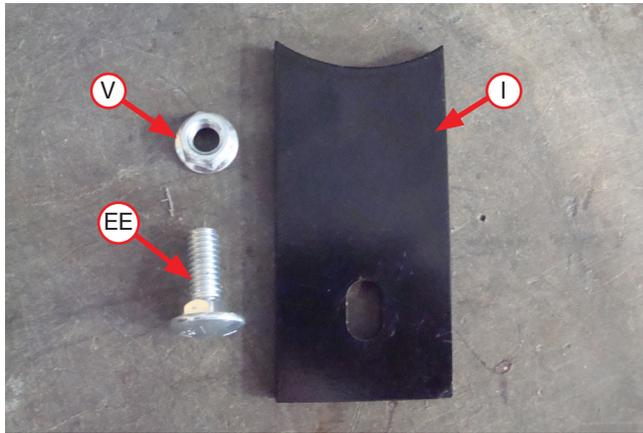
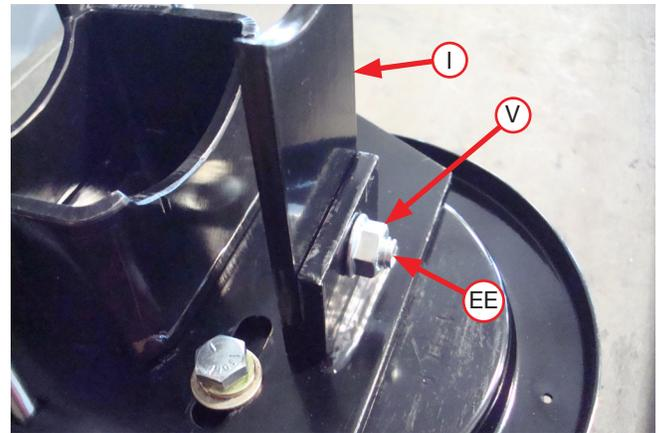

Fig. 15
Fig. 16
- Attach the lower leg adapter (I) to the lower bracket using a 3/8"-16 x 1" carriage bolt (EE) and 3/8"-16 serrated flange lock nut (V) (Fig. 15). Install as shown (Fig. 16). Push the adapter against the lower bracket and torque the hardware to 16 lb.-ft. (14Nm).